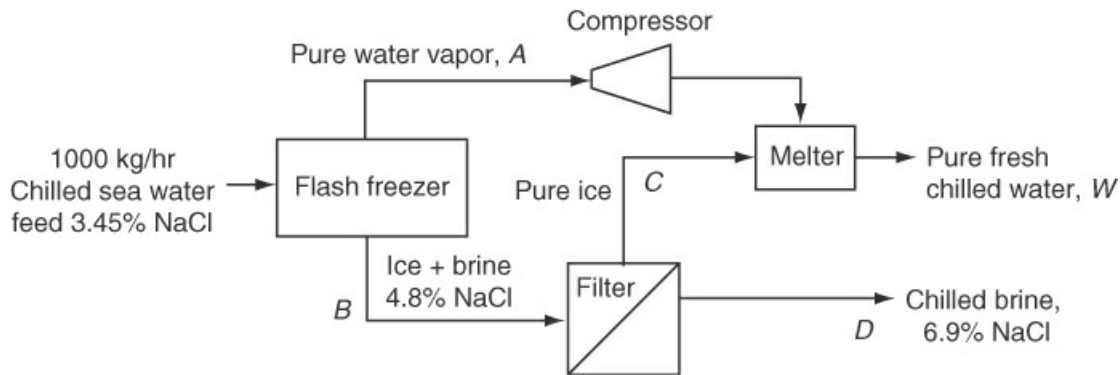

Figure SAT5.4P1
1. Figure SAT5.4P1 shows a schematic for making freshwater from seawater by freezing. The prechilled seawater is sprayed into a vacuum at a low pressure. The cooling required to freeze some of the feed seawater comes from evaporation of a fraction of the water entering the chamber. The concentration of the brine stream, B, is 4.8% salt. The pure salt-free water vapor is compressed and fed to a melter at a higher pressure, where the heat of condensation of the vapor is removed through the heat of fusion of the ice, which contains no salt. As a result, pure